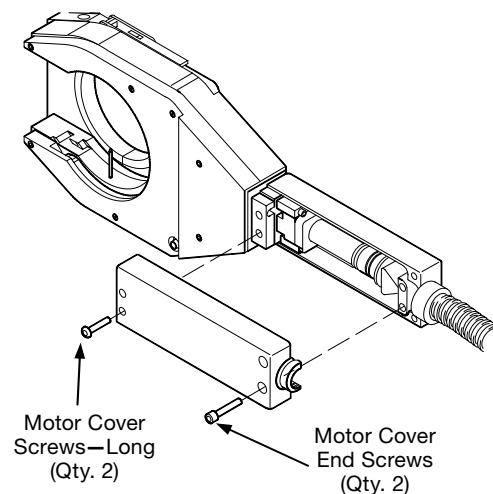

Figure 15 Removing the Motor Cover
4. Remove the long motor cover screws and the motor cover end screws. See Figure 15.